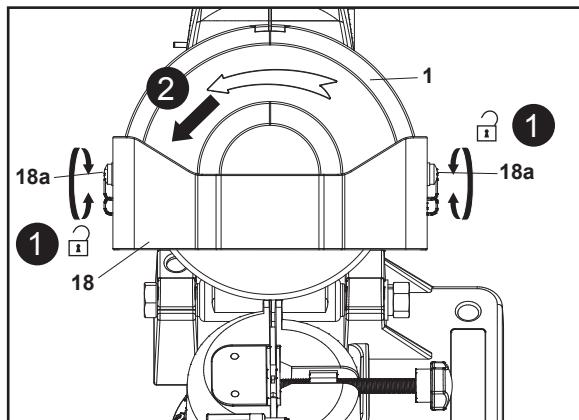

Fig. 11
1. Loosen and remove the two screws (18a) on the upper guard (1) and the transparent movable guard (18) with a suitable Philips-head screwdriver (not supplied). There are 2 captive nuts that engage with the screws inside the upper guard. Ensure that they are not lost when removing the screws. Keep them handy to avoid loss (Fig. 11, step 1).
2. Lift off the upper guard (1) and the transparent movable guard (18) (Fig. 11, step 2).